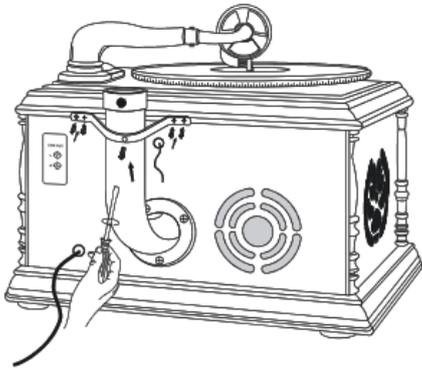

Fig7
- 6.) Look at Fig7. Match the holes on the U-type(B) bracket according with the holes on the TR-W102U host cabinet as shown. Rotate clockwise four screws D(H) into the holes on the sides and one screw B(F) into the middle and tighten.